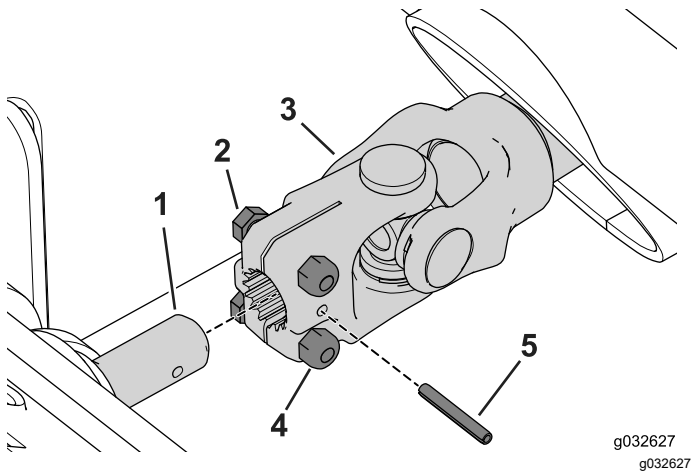

Figure 125
1. Use the roll pin connect the drive shaft to the gearbox shaft (Figure 125).